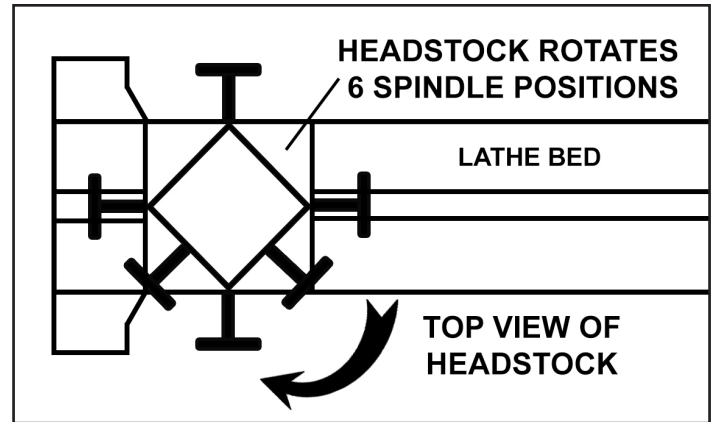

FIG. 5
2. **HEADSTOCK INDEXING PIN:** (B) The headstock can rotate 360° on the bed to allow the user to turn in six positions - 1 for 'inboard' spindle turning and 6 for 'outboard' faceplate turning (5 with the use of a free-standing tool rest). The Indexing Pin secures the headstock when rotated to one of the six positions. FIG. 5.
- Unlock the headstock Locking Handle (A).
- Pull out the front Knob (B) to unlock the plunger and to release the headstock.
3. **HEADSTOCK SPINDLE LOCK:** (C) This push Pin is used to keep the spindle from turning, so that faceplates, chucks or other accessories that have been mounted on the threaded spindle can be mounted, or removed.
4. **HEADSTOCK ON/OFF BUTTON:** (D) Slightly rotate the Button so that it pops out and turns the lathe ON. Push the button in to turn the lathe OFF.